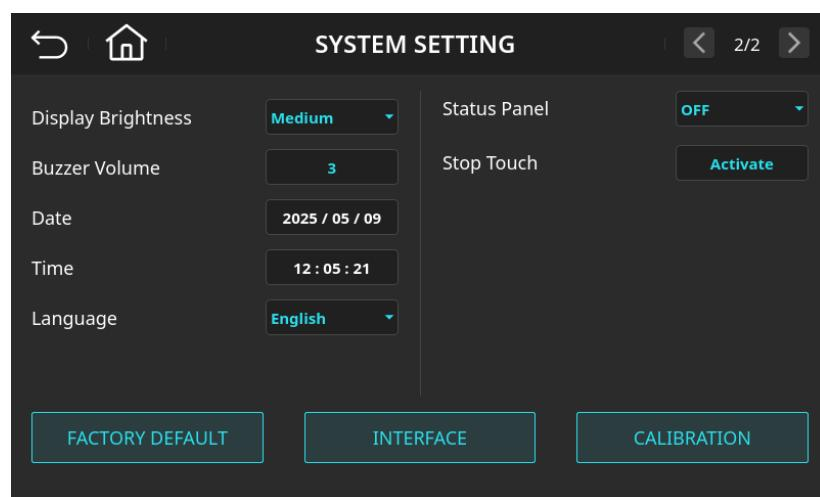

Figure 6-15 System Function Settings Page(Display Brightness=Medium)
3. Select "Medium", as shown in Figure 6-15.